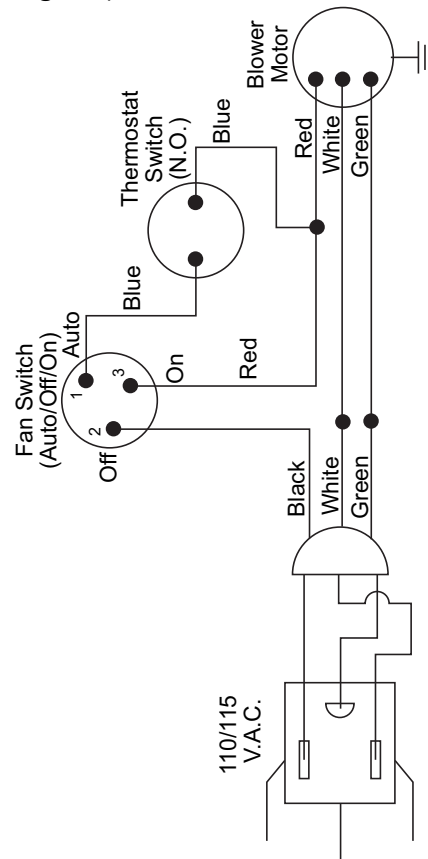

Figure 19 - Wiring Diagram For Blower Accessory Built-In Installation
4. A licensed electrician must follow the wiring diagram to connect incoming electrical supply to fan kit wiring harness (see **Figure 19**).